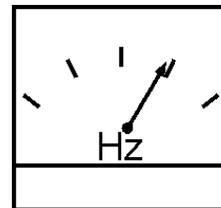

Figure 43. Frequency Meter
3. The generator's frequency meter (Figure 43) should be displaying the 60 cycle output frequency in **HERTZ**.